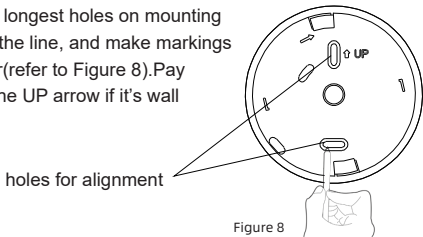

Figure 8
- 4)Align the 2 longest holes on mounting bracket with the line, and make markings on the center(refer to Figure 8).Pay attention to the UP arrow if it's wall mounting.